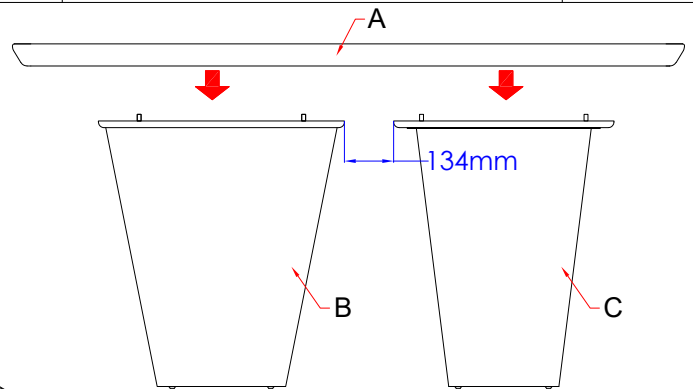

FIGURE 01
1. Preset the both of table bases (B/ C) on your desired location. Distance between the top panels of the bases should be 134mm. See FIGURE 01.